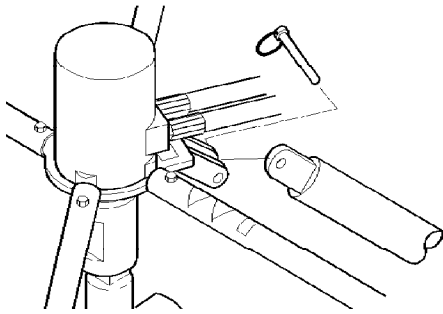

Figure 3. Installing Torque Tube
1. The torque tube is attached to the base as shown in figure 3. Be sure to use the cotterless clevis pin provided with the unit. Make sure the pin is pushed through both holes in the base.